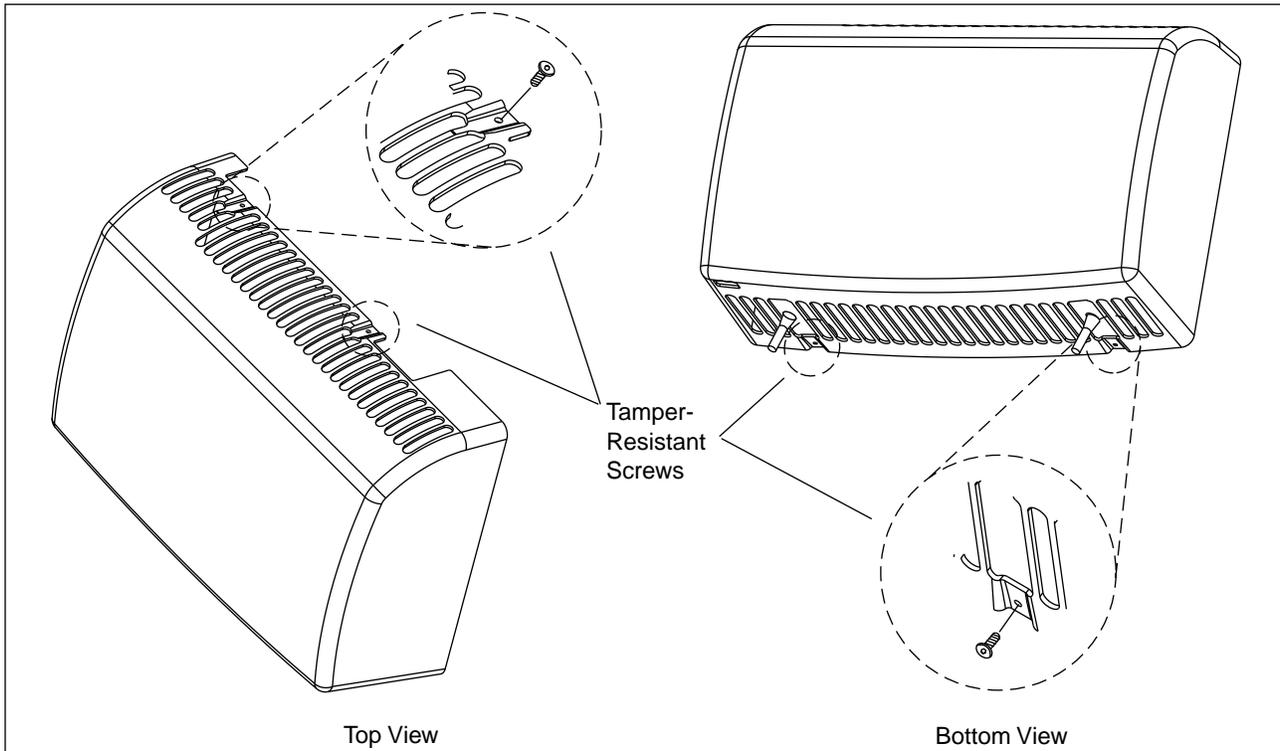

Figure 6-13. Radio Head Front Cover
2. Remove the four tamper-resistant screws on the Radio Head cover using the Torx driver tool provided in the Radio Head Hardware Kit (NTM 201 1581). See Figure 6-13 on page 6-42 for the location of the screws.
29. Install the Radio Head cover on the Radio Head using the four tamper-resistant screws from Step 2 on page 6-42. See Figure 6-13 on page 6-42.